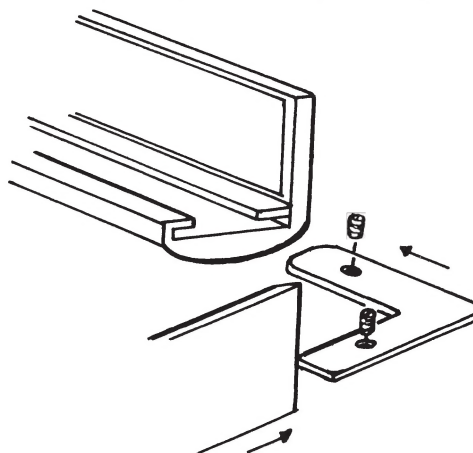

FIGURE 9
5. Place the trim package with the finish down on a soft flat surface (be sure not to scratch). Place the 40" piece at the top and fasten the mitred corner of the 29" pieces to each end with the brackets and set screws provided. Remove the backing of the double faced tape and place the trim evenly on the Flushmount faceplate. Be sure to apply even pressure around the trim to bond the tape to the faceplate. (See Figure 9)